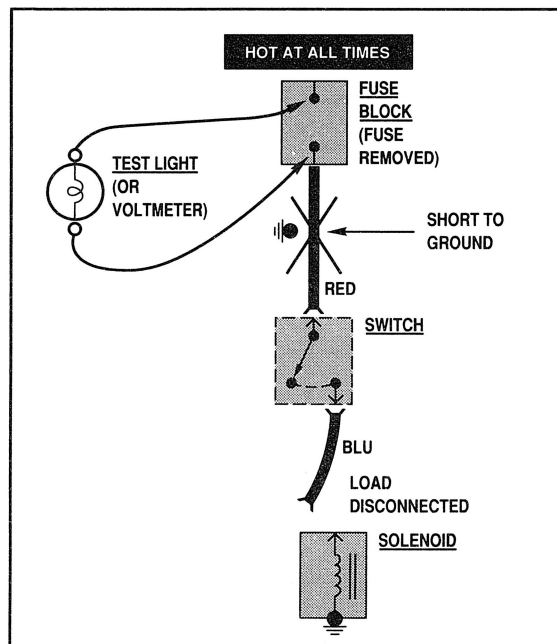

Figure 9 - Testing for Short with Test Light or Voltmeter
4. When the test light glows, or the voltmeter registers, there is a short to ground in the wiring near that point (Figure 9).